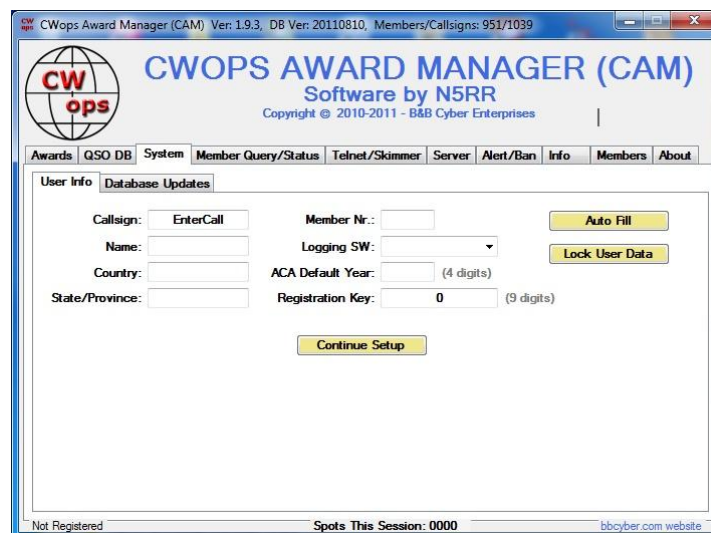

Figure 3-1. Initial Setup Screen.
STEP 3: Make a shortcut for “CWops Award Manager.exe” and place it on the desktop. Double click the shortcut, to start the CAM program. The screen shown in Figure 3-1 should appear.